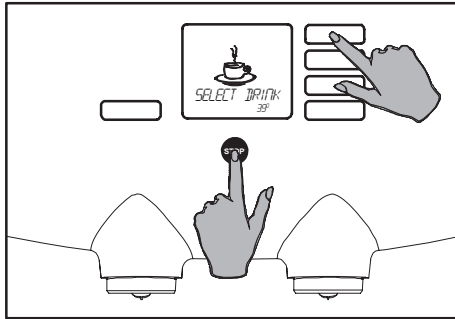

Fig. 59 Access to the operator menu
1. Activate the operator menu (fig. 59), see also § "Access to the operator menu" (fig. 27).